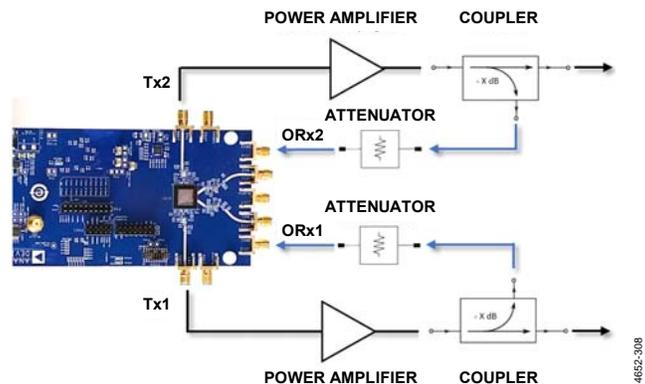

Figure 181. End User Application of External Tx LOL Calibration Using the Device Evaluation System
To use the device evaluation system with a power amplifier (PA), either split or couple the signal after the PA and then connect it to the corresponding ORx channel through an appropriate attenuator. Do not exceed -16 dBm maximum signal level at the ORx input. Calculate the amount of attenuation required based on the power level after the PA and RF coupler (see Figure 181).